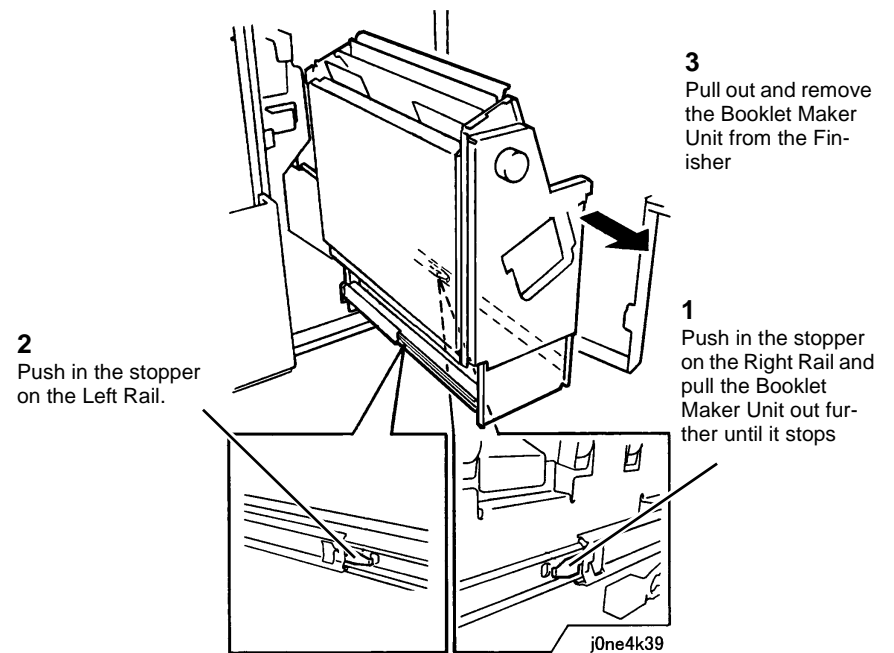

Figure 1 Removing the Booklet Maker Unit
6. Remove the Booklet Maker Unit (Figure 1).